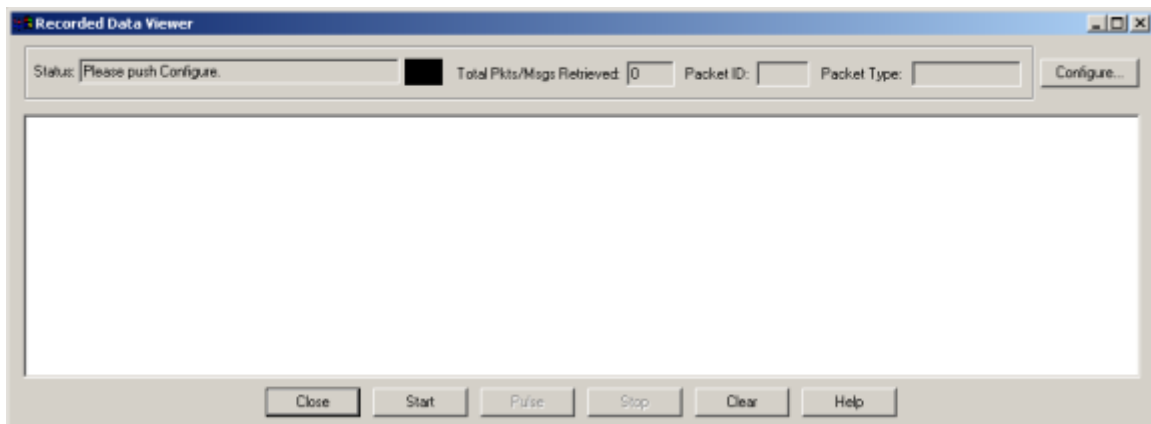

Figure 35 Recorded Data Viewer
1. Go to the **Command Processing** application, select the **Options** menu, and then select the **Recorded Data Viewer** menu item. This will display the Recorded Data Viewer dialog shown in Figure 35.